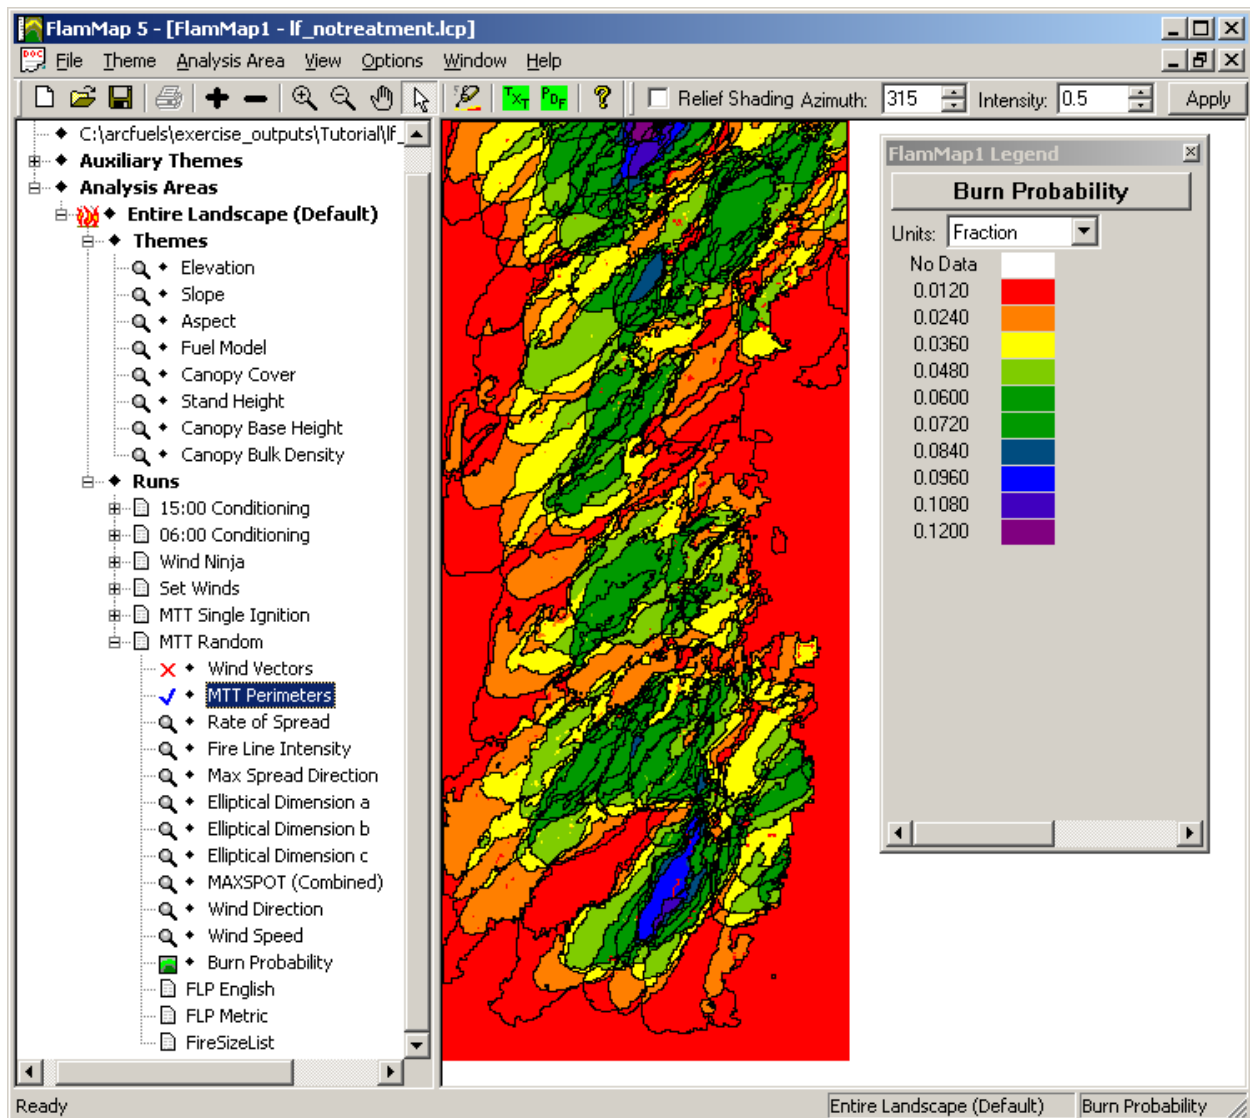

Figure 4-50—MTT Perimeters
- 4) Under the **Runs** section, expand the **MTT Random** run in the tree pane (fig. 4-50). Show the **MTT Perimeters** over the **Burn Probability** theme. Change the properties of each to make the map more informative and easier to see. In figure 4-50 the **MTT Perimeters** were changed to black 1 pt lines, and the **Burn Probability** color ramp was changed to the rainbow option.